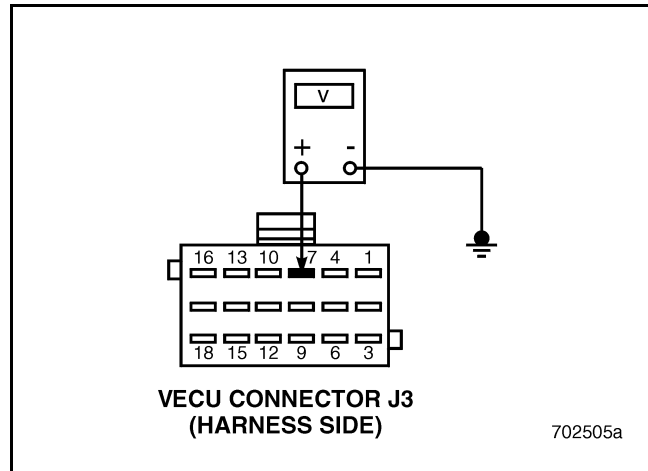

Figure 586
5. Measure the voltage between VECU connector J3, pin 7 and a good ground (see Figure 586).